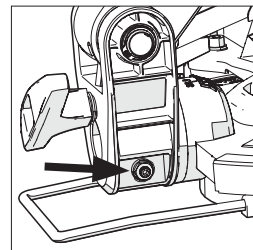

Fig. 10
- Use the Hex key to adjust the adjustment screw in or out as required (Fig. 10).